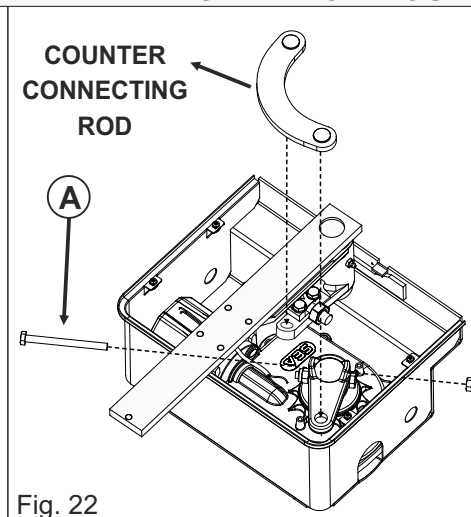
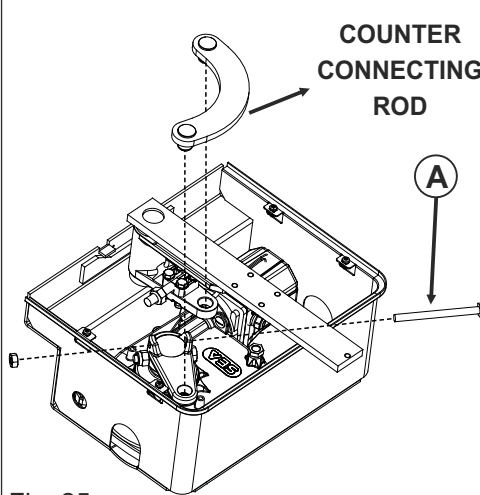

Fig. 22
Fig. 25
5.2. Insert the screw «A» as indicated and fix it with the respective nut; furthermore fix the pins of the counter-connecting rod in the appropriate holes (adequately greased) on the rod support and on the operator crank, as shown in Fig. 22 or Fig 25;